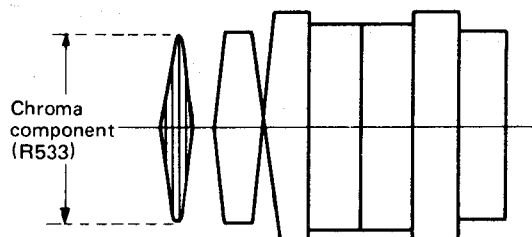

Figure 97.
2. Observe the output of TP-503 on oscilloscope (internal trigger, TP512), and adjust R533 (mixer control) so that the resultant chroma component will be minimum as shown in Fig. 97.